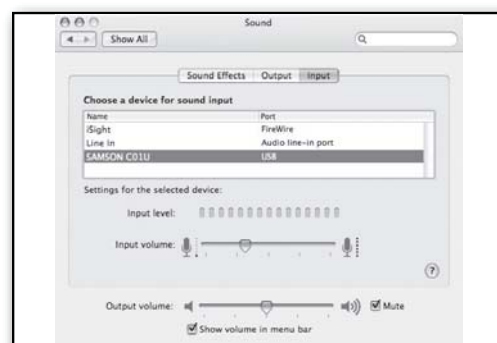

Figure 10
4. Now, click in the Input tab and select USB Audio Codec (figure 10). You may notice that the Volume slider sets itself to the full level. This will allow you to have full range using M Series's hardware input level controls.